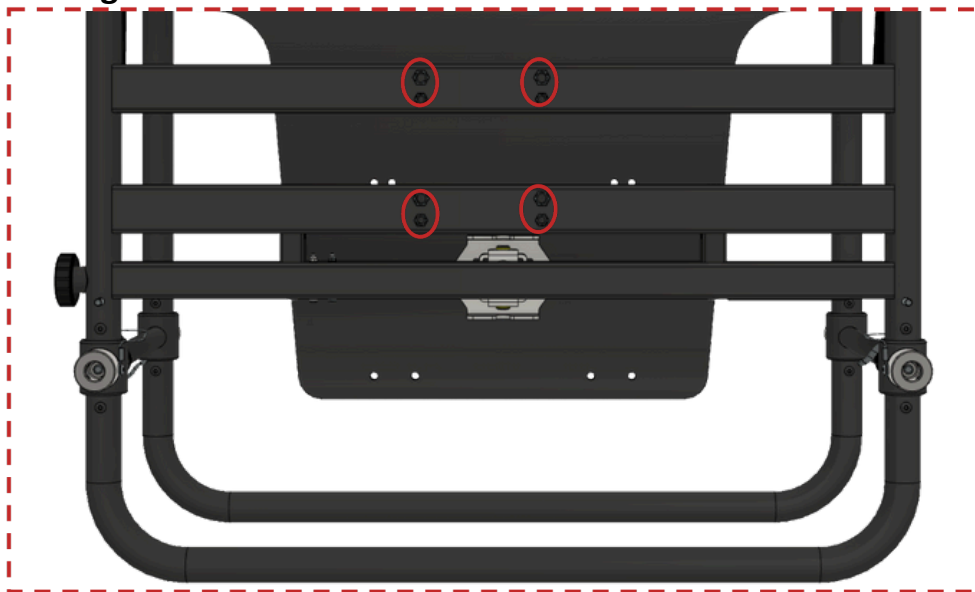

Figure 25 Inspection of mounting threads at bottom side
- Before and after each installation, the **M6 and M8 mounting holes** (see red marking in Figure 25) must be carefully inspected, as they may get damaged during the installation of the hanging accessory.